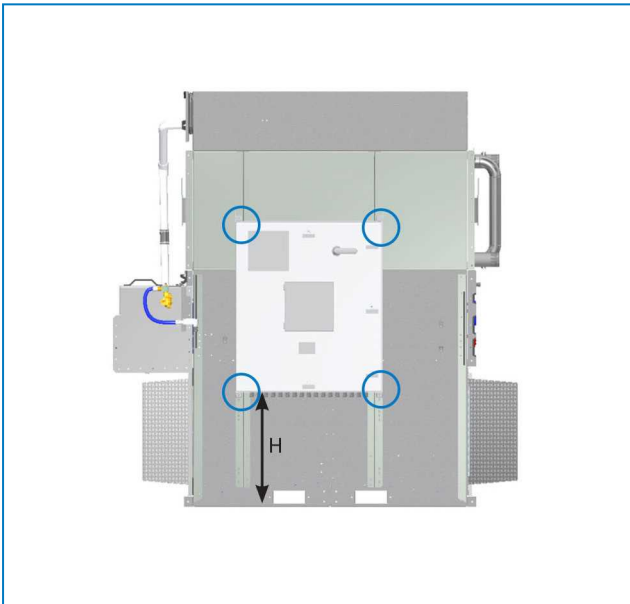

Fig. 9C Control panel mounting height
2. Attach the control panel using the mounting holes at each corner. Ensure the dimension from the bottom of the control panel to the bottom of the unit is correct following the table 4 dimension H (see figure 9C).